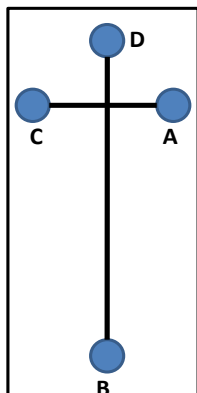

Figure 1. Diagram of basic cross microfluidic chip. Reservoir Guide: A=Sample; B=Buffer waste; C= Sample waste; D=Buffer.
Figure 1 shows a diagram of a generic microfluidic chip. The steps below require a chip with capillary/tubing connections already in place (information on applying CapTite bonded port connectors is included on Page 3 if needed).
2. Referring to Figure 1, using a syringe with a one-piece fitting connected to capillary or PEEK tubing, fill from bonded port connector B.